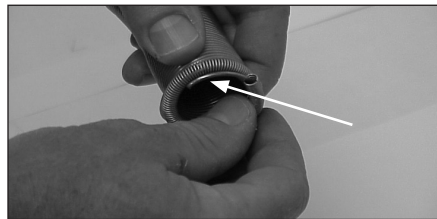

FIGURE 3: Thread Inner Spring until 1 inch of the Corona Ring protrudes.
3. Thread Inner Spring until 1 inch of the end of the Corona Ring protrudes out. (**Figure 3**).